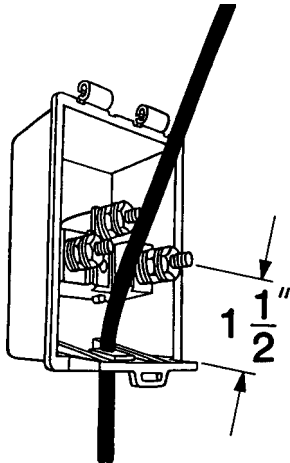

FIGURE 2
3.02 Remove outer jacket and shield of service wire approximately 1-1/2" above the grommet. See Figure 2.